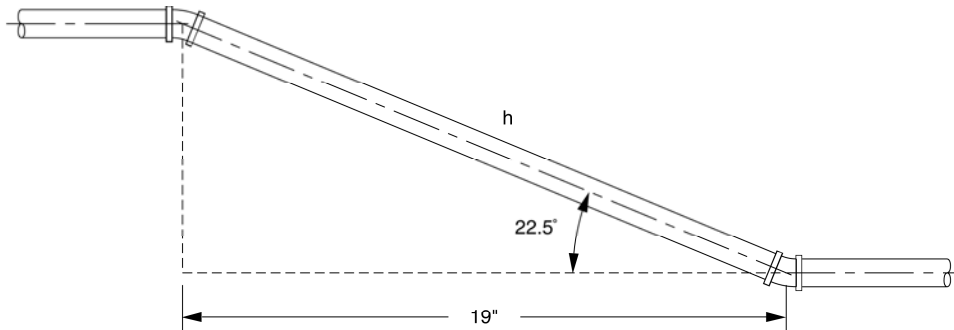

Figure 3-7. Calculate the hypotenuse (travel) of the right triangle using constants.
- 12. Calculate the hypotenuse (travel) of the triangle shown in Figure 3-7 using constants (refer to your reference material).